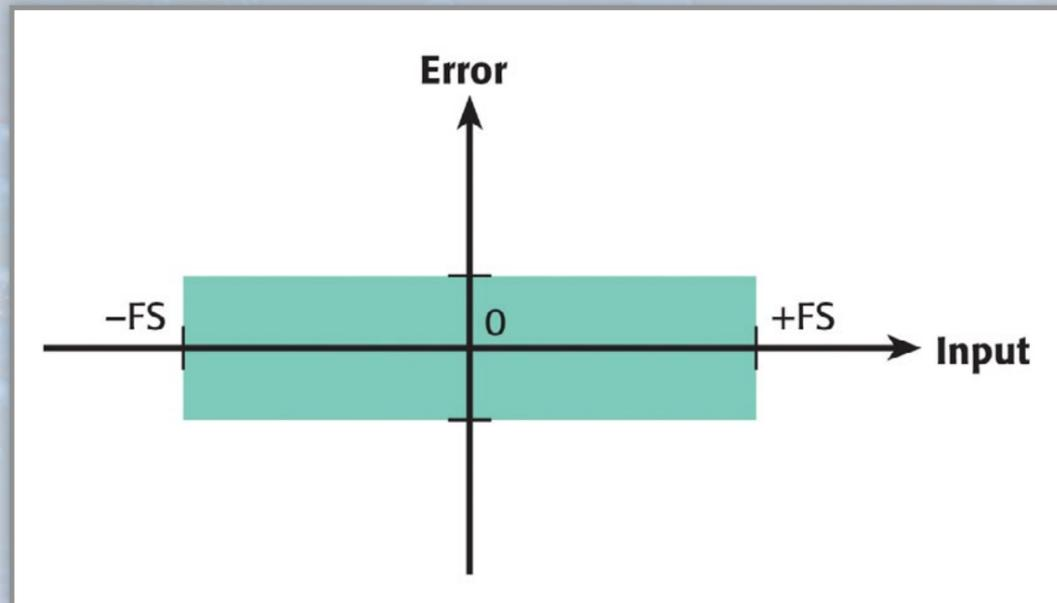
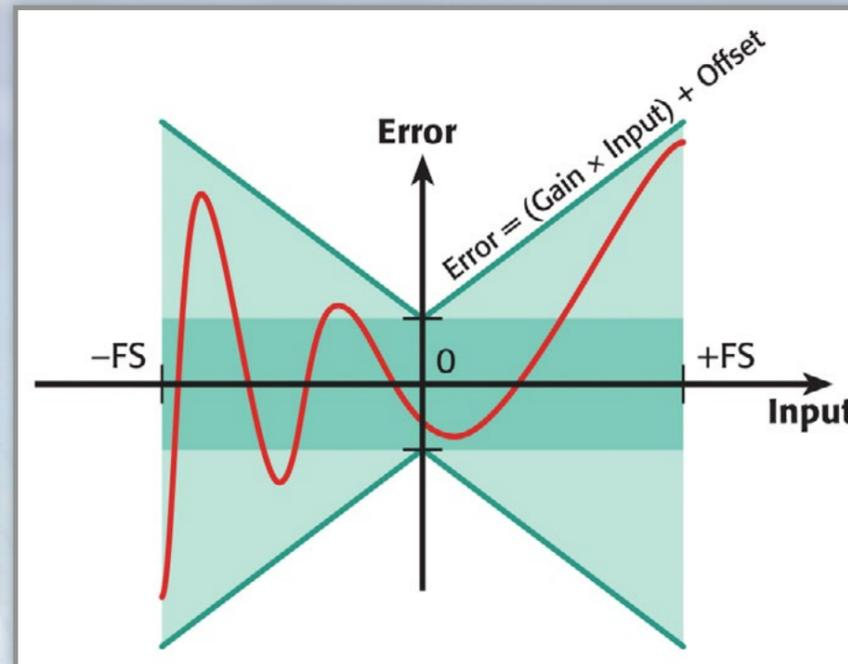

Figure 1
Figure 2
- Accuracy.** Keithley normally expresses its accuracy specifications in two parts, namely as a proportion of the value being measured, and a proportion of the scale that the measurement is on, for example:  $\pm$  (gain error + offset error). This can be expressed as  $\pm$  (% reading + % range) or  $\pm$  (ppm of reading + ppm of range). The range in **Figure 1** is represented by FS or “full scale.” For example, the specification for Keithley’s Model 2000 6½-digit multimeter, when measuring voltage on the 1V range, states an accuracy of 30ppm of the reading + 7ppm of range. The green box represents the offset error, which is expressed either as a percentage of the range or ppm of the range. **Figure 2** illustrates the gain error, which is expressed either as a % of the reading or ppm of the reading. When carrying out a reading, we can expect the error to be anywhere within the purple and green areas of the graph. Accuracy specs for high-quality measurement devices can be given for 24 hours, 90 days, one year, two years, or even five years from the time of last calibration. Basic accuracy specs often assume usage within 90 days of calibration.